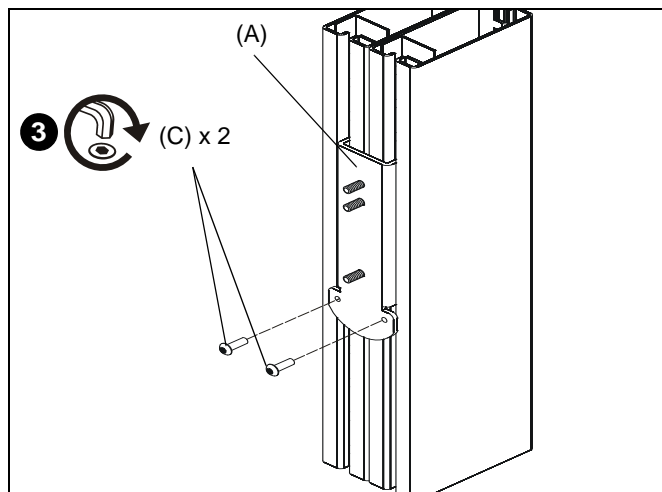

Figure 2
3. Secure OFB206 bracket (A) to work bench station using two 8-32 x 1/2" button head cap screws (C). (See Figure 2)